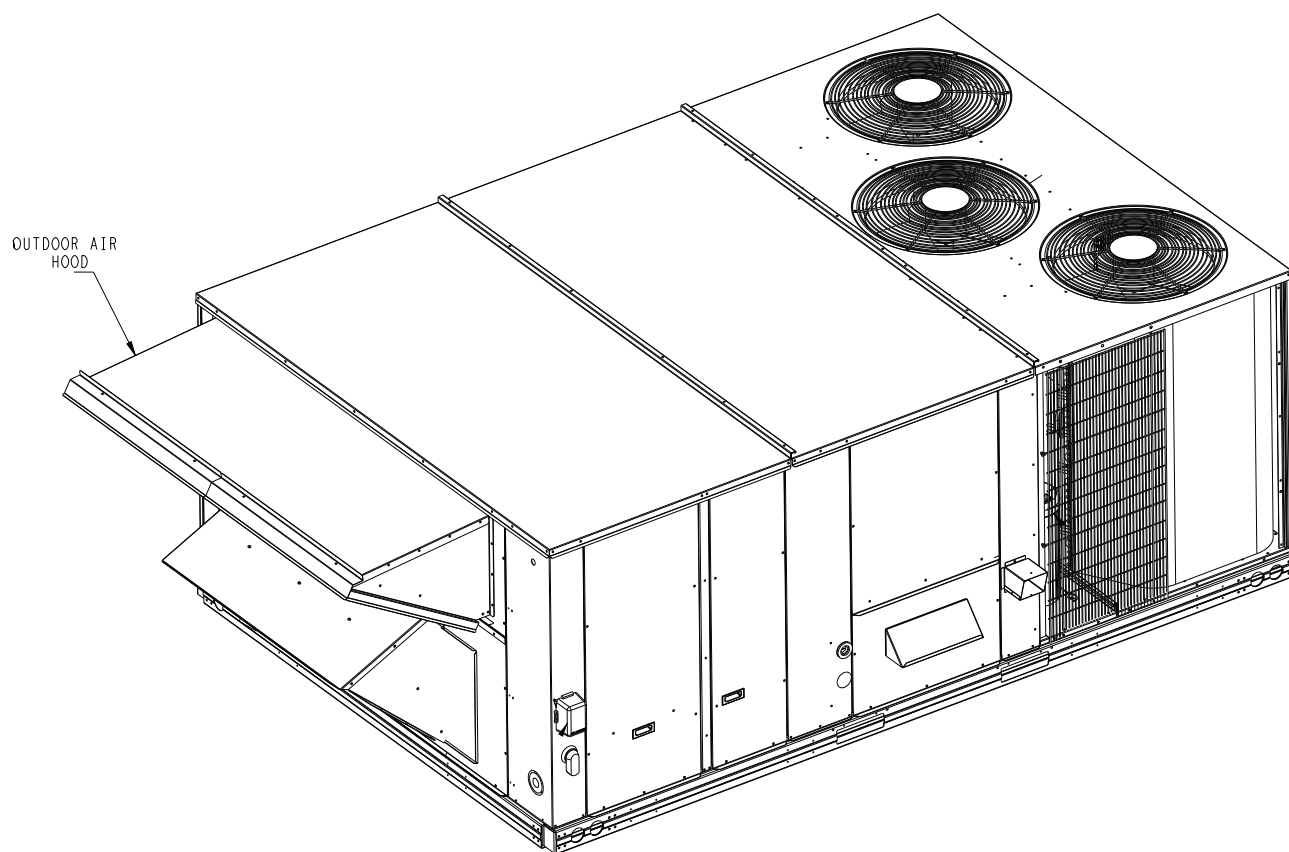

Fig. 8 — Hood Assembly Installed
8. Install the hood assembly on the unit. (See Fig. 8.)